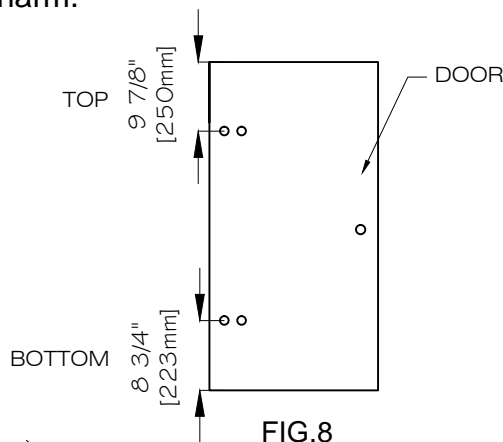

FIG.8
1. Make sure you have the door right side up. The distance at the top is slightly larger than the distance at the bottom. [SEE FIG.8]